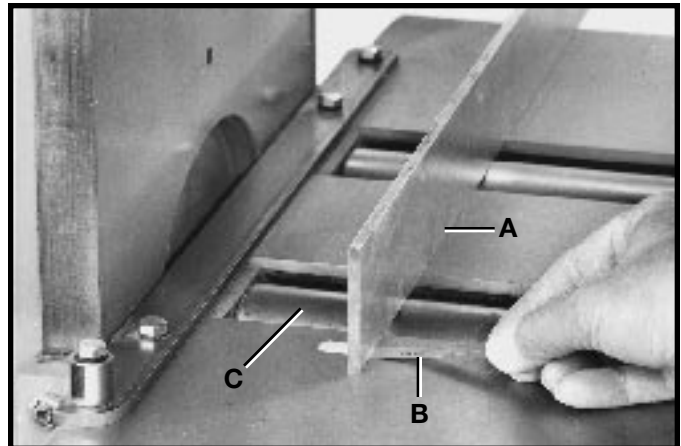

Fig. 23
3. With a feeler gage Fig. 23, measure the gap between the table surface and the straight edge (A) near the infeed roll (C).